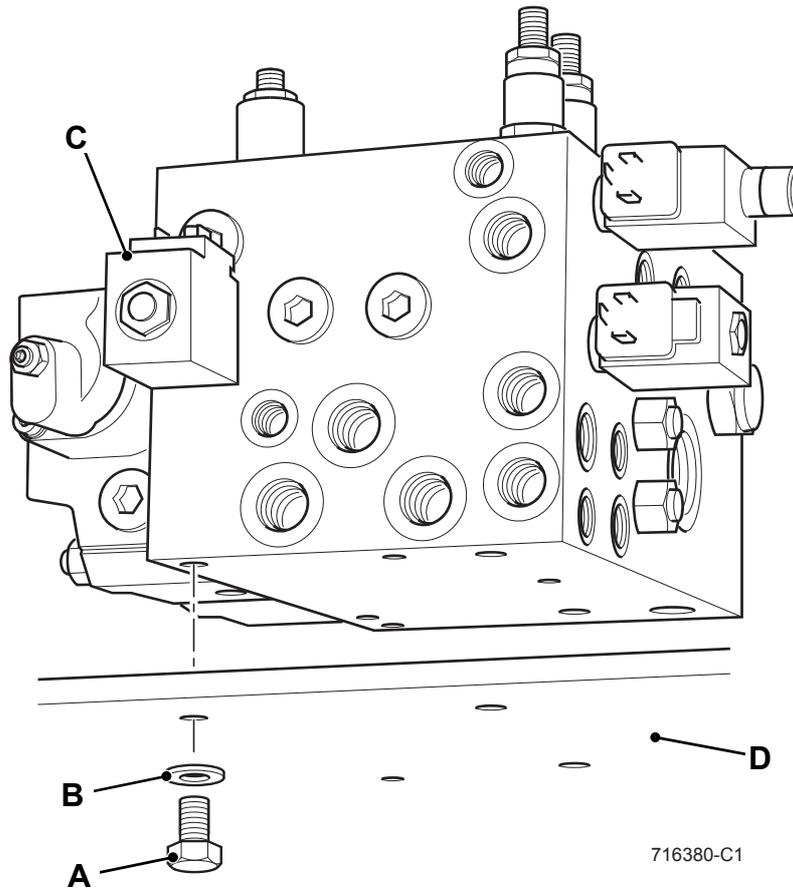

Fig 19.
- 2 → Fig 19. (E-43). Identify and label the hoses and electrical connections connected to the manifold block C to ensure correct reconnection when the work is complete.